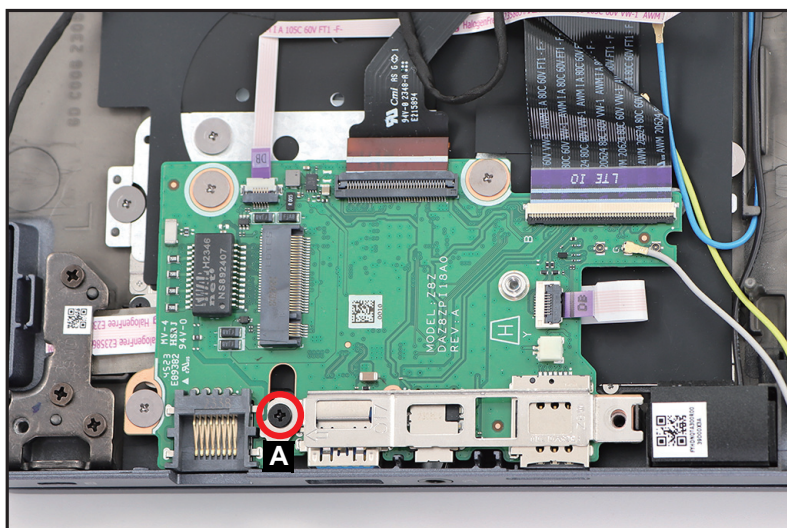

Figure 1-44. LTE Board Removal
1. Remove one (1) screw (A) securing the right I/O bracket in place (Figure 1-44).